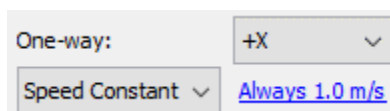

Figure 53. Changing a stair into an escalator
4. Click the **Speed Modifier** drop-down, and choose **Speed Constant** as shown in Figure 53.